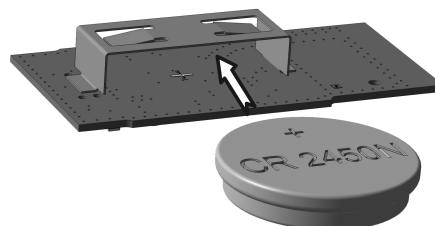

Figure 4: Inserting the battery
- Slide battery into battery holder (Figure 4). Observe polarity: the positive pole of the battery must be at the top.